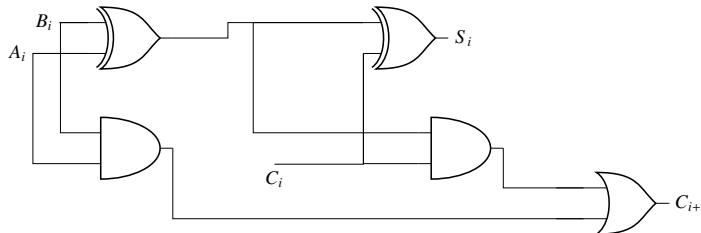

Fig. 3.13: Full Adder
27. Fig. 3.13 shows the i th full-adder block of a binary adder circuit. C_i is the input carry and C_{i+1} is the output carry of the circuit. If the inputs A_i, B_i are available and stable throughout the carry propagation, find the outputs S_i and C_{i+1} .